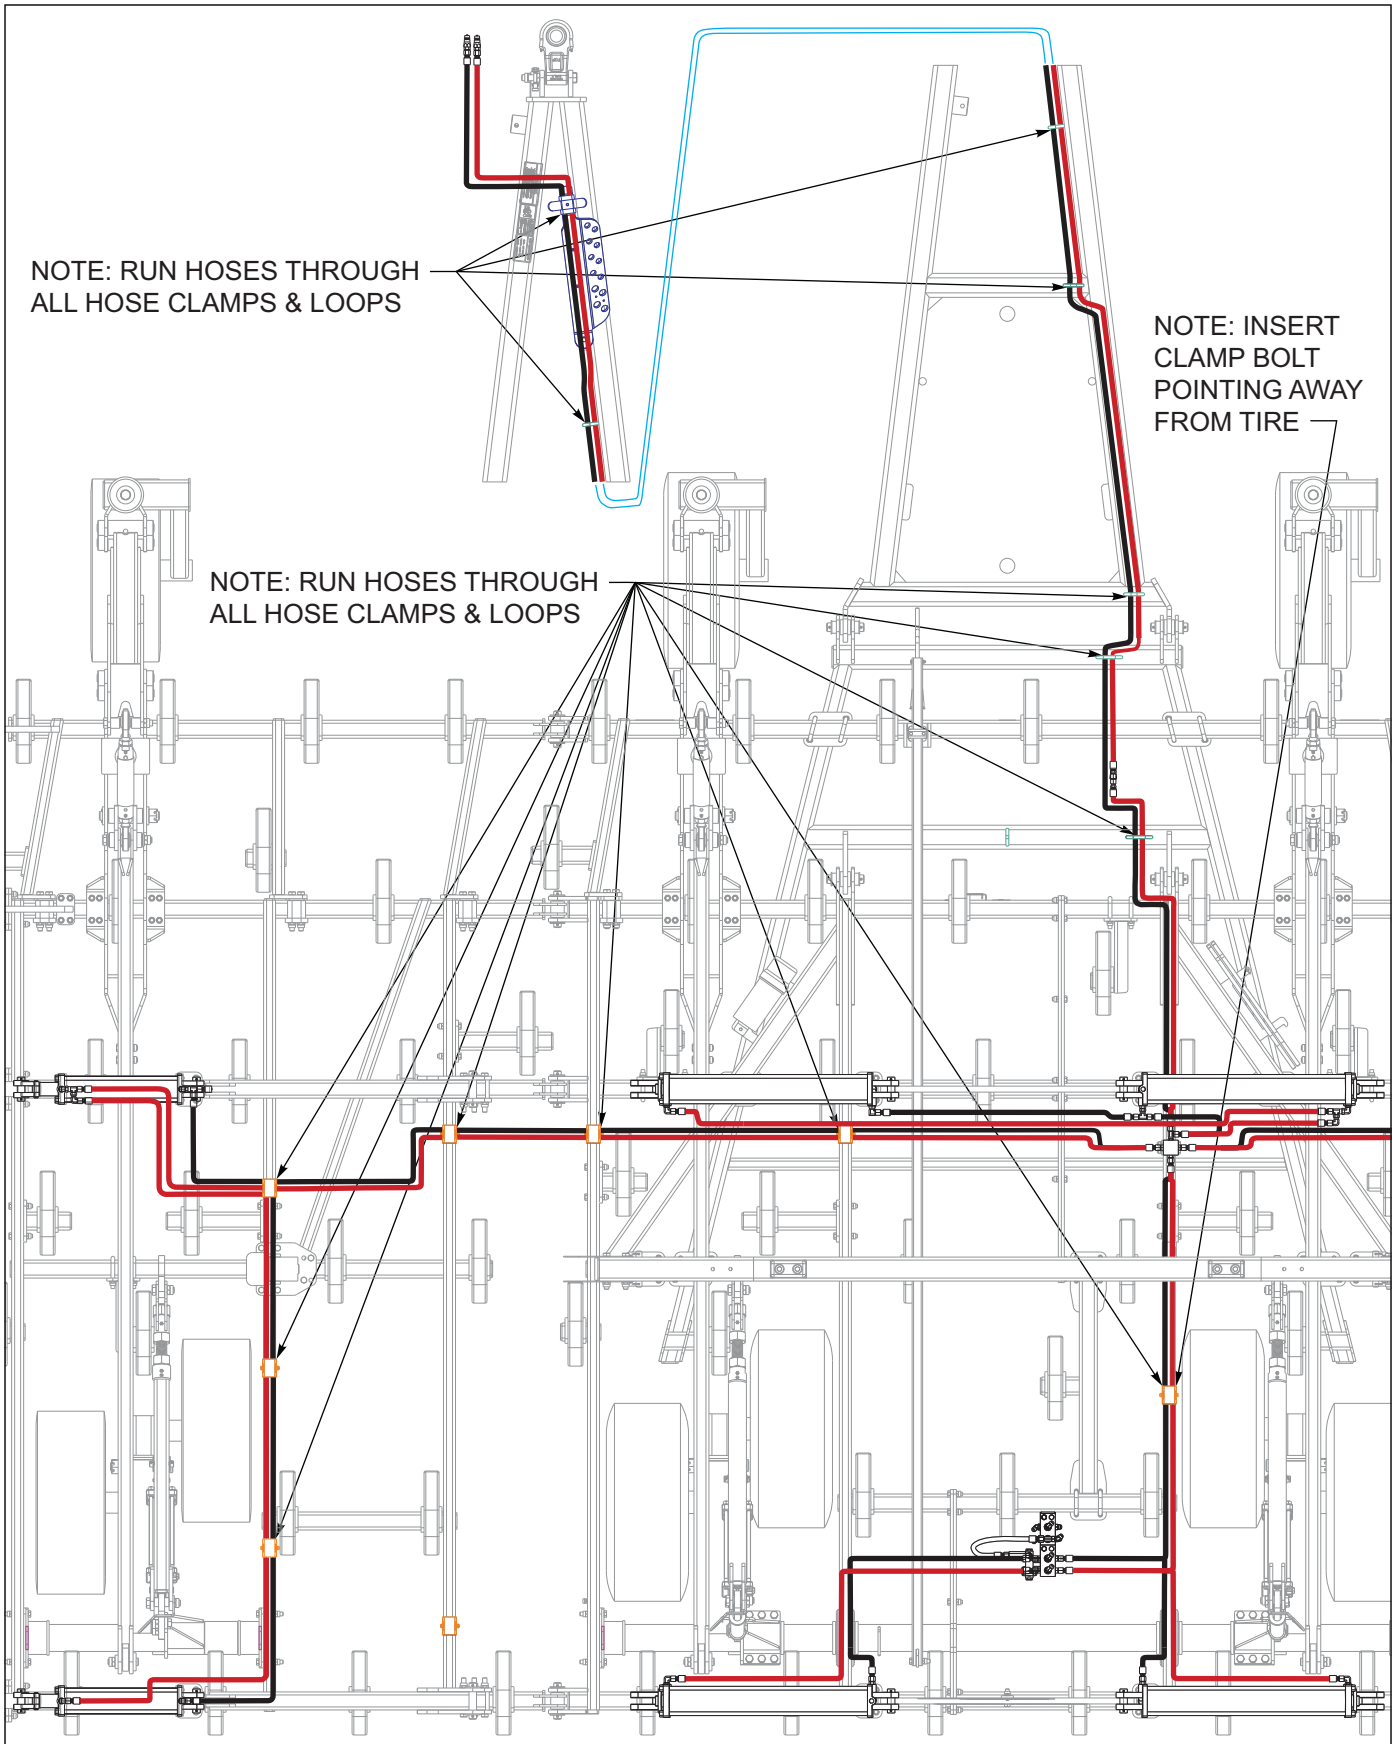

Figure 3-16: Hydraulic Fold Layout 9450FH-38' - 42' LH
10. Install fold system hoses per Figure 3-16 (9650-38 and 9650-42) or Figure 3-21 (9650-46 and 9650-50.) Wrap fold system hoses with yellow hose wrap.